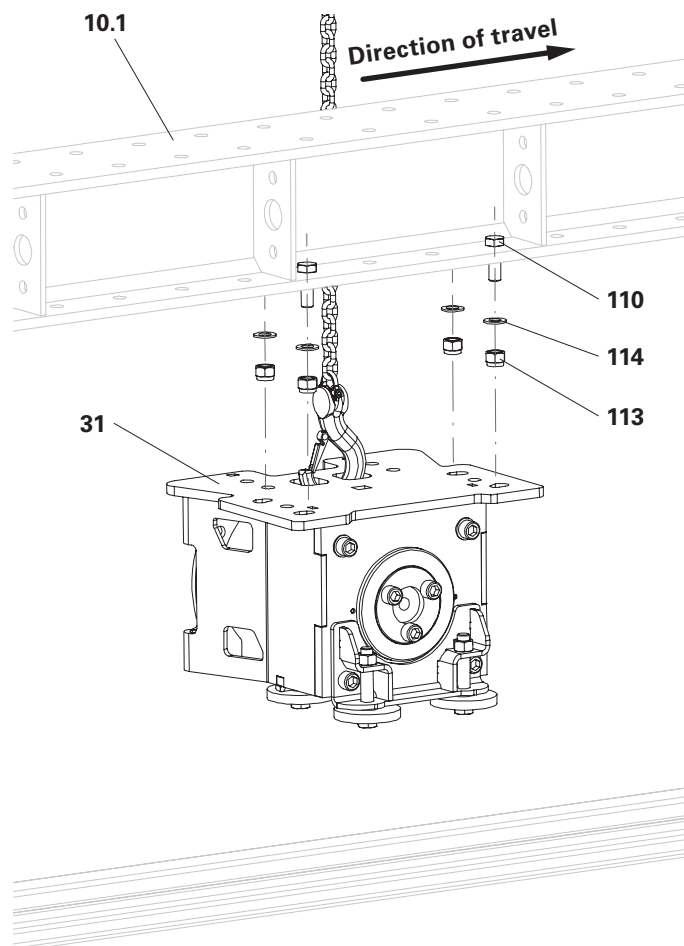

Fig. B2.07
4. Remove the crane lifting gear. (Fig. B2.07)